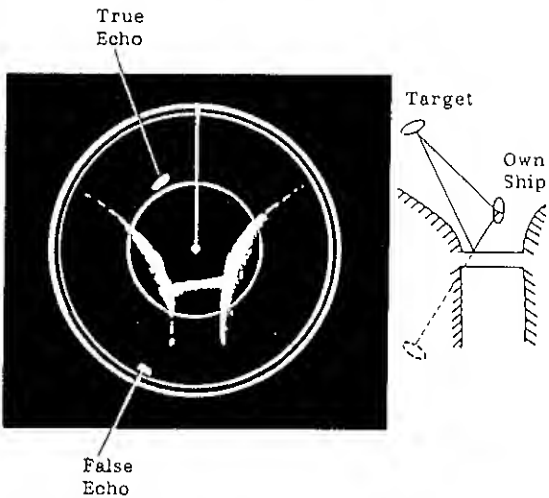

Fig.3-7 Indirect Echoes
Indirect echoes may be returned from either a passing ship or returned from a reflecting surface on your own ship, for example, a stack. In both cases, the echo will return from a legitimate contact to the antenna by the same indirect path. The echo will appear on the same bearing of the reflected surface, but at the same range as the direct echo. Fig.3-7 illustrates the effect of an indirect echo. Indirect echoes may be recognized as follows. (1) they usually occur in a shadow sector; (2) they appear on the bearing of the obstruction but at the range of the legitimate contact; (3) when plotted, their movements are usually abnormal, and (4) their shapes may indicate that they are not direct echoes.